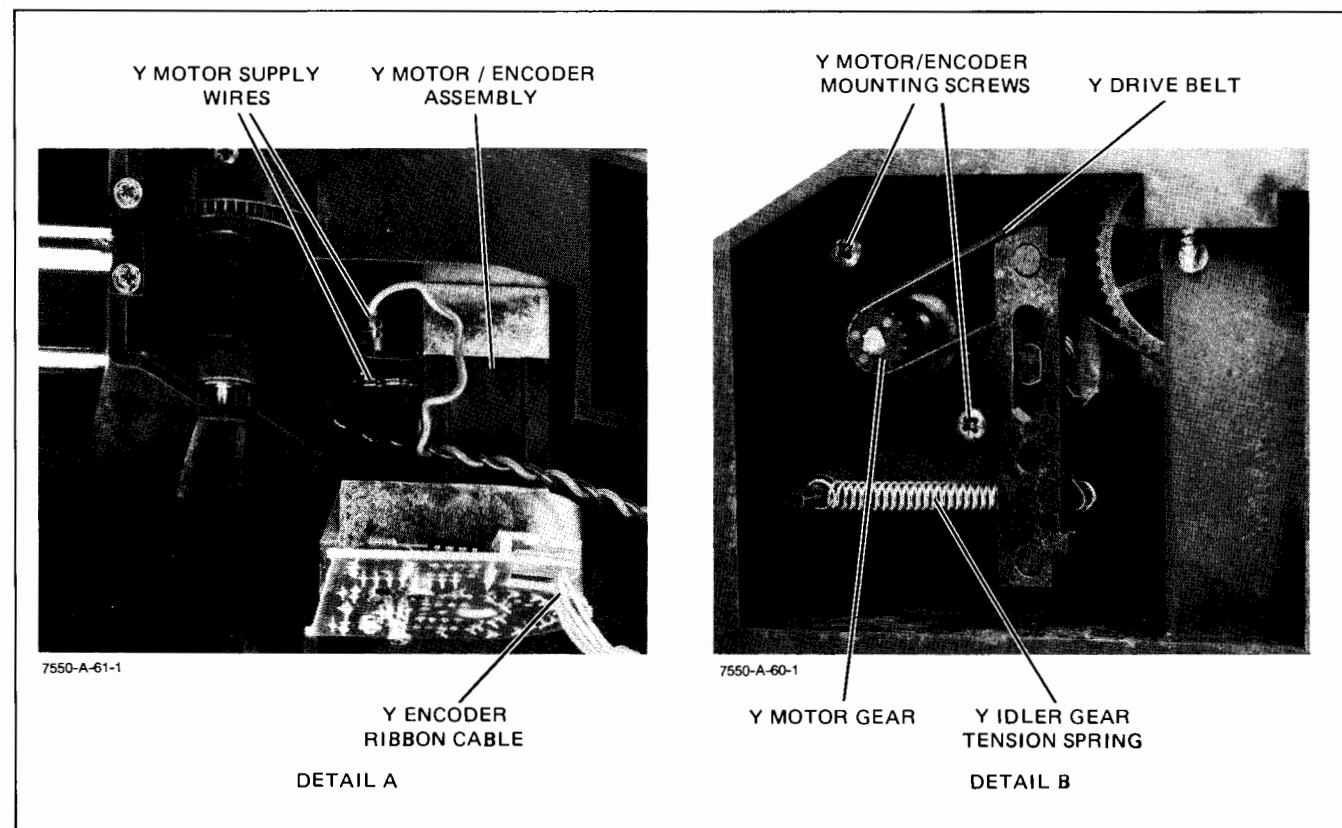

Figure 6-20. Y-Drive (Pen Carriage) Motor/Encoder Removal
- Disconnect the Y-encoder ribbon cable and Y-motor supply wires from the Y-motor/encoder assembly. See Figure 6-20, Detail A. Note the polarity of the wires for reassembly.
- Release the Y-idler gear tension spring from the standoff located on the back side of the X,Y carriage assembly. See Figure 6-20, Detail B.